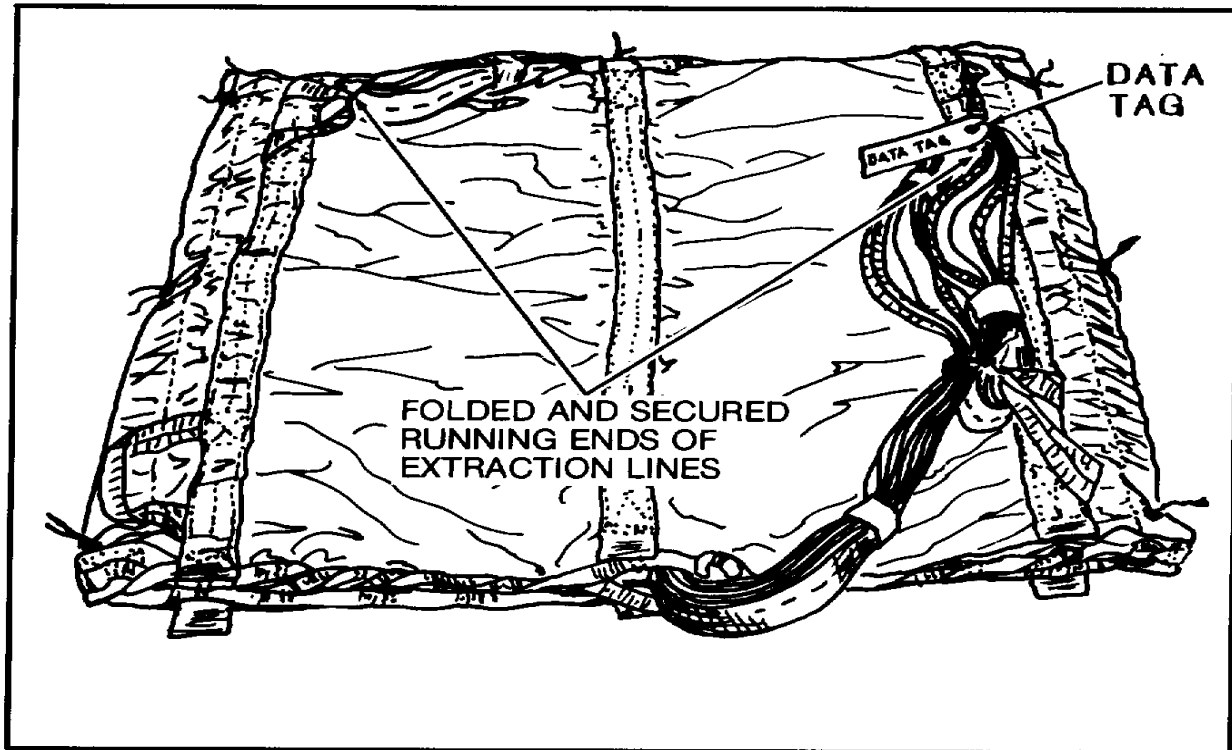

Figure 8. Extraction Line Running Ends Secured to Panel.
- g. Fold and secure running ends of extraction line to carrying handles using ¼-inch wide type I cotton webbing (figure 8).